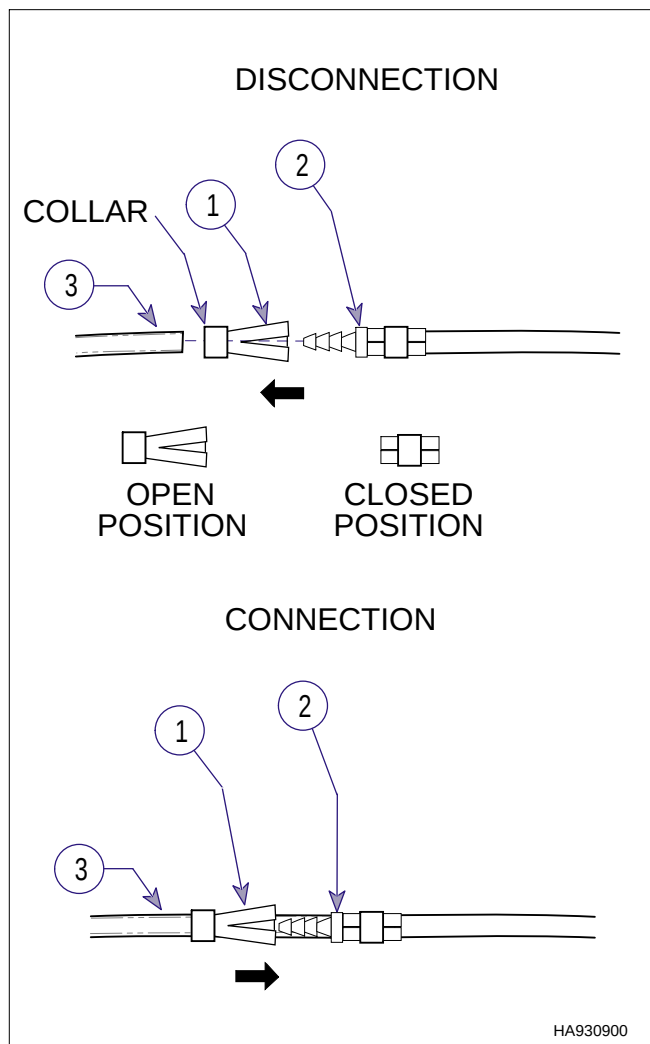

Figure 4-3. Typical Tubing Disconnection/Connection
- (1) Slide collar of uni-clamp (1, Figure 4-3) away from fitting (2) as shown.
- (2) Disconnect tubing (3) by gently pulling away from fitting (2).
- (3) Remove uni-clamp (1) from tubing (3) and set aside for later use.